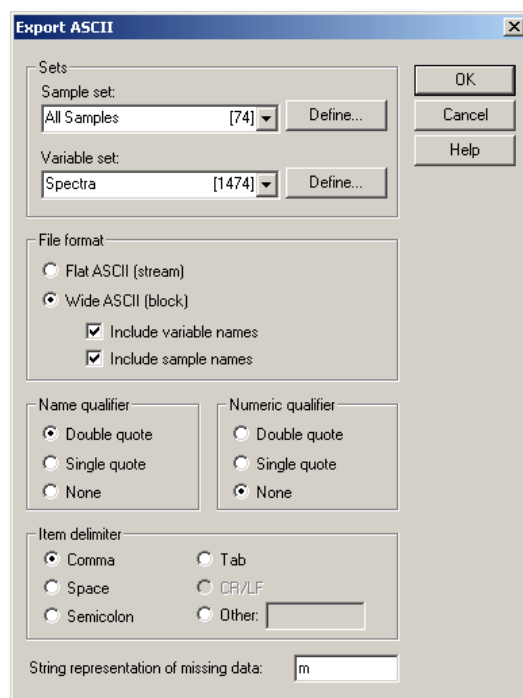

Figure 51: Unscrambler Export ASCII window
- The Export ASCII window shown in Figure 51 is then opened. Select the settings shown in this figure: File format = Wide ASCII (Include variable names, Include sample names); Name qualifier = Double Quote; Numeric qualifier = None; and Item delimiter = Comma.